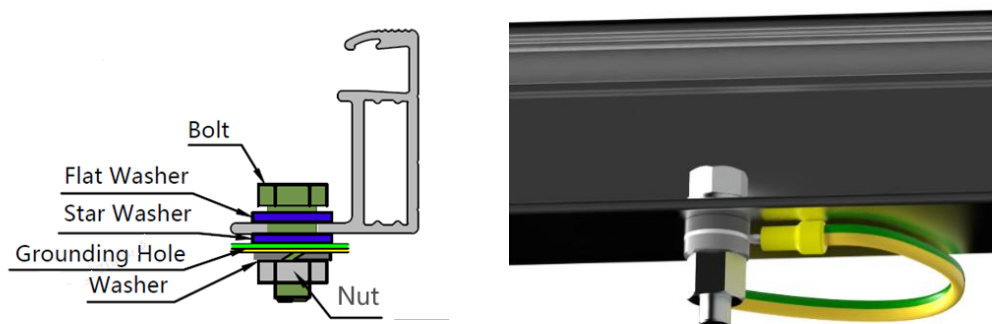

Figure 12 Grounding hole with bolts
- There are grounding holes with a diameter of 4mm on the long side of the back frame of the module, by the edge part. The grounding hole on the frame is marked with typical grounding symbol ($\perp$) according to IEC 61730-1:2023 standard. These holes can only be used for grounding with bolts, so cannot be used for module installation. This method includes bolt, flat washer, star washer, washer and nut (see Figure 12) . The bolts should be tightened when grounding is installed. The frame of the module must not be punched with additional holes and no damage should be done to the module frame or the grounding wire.